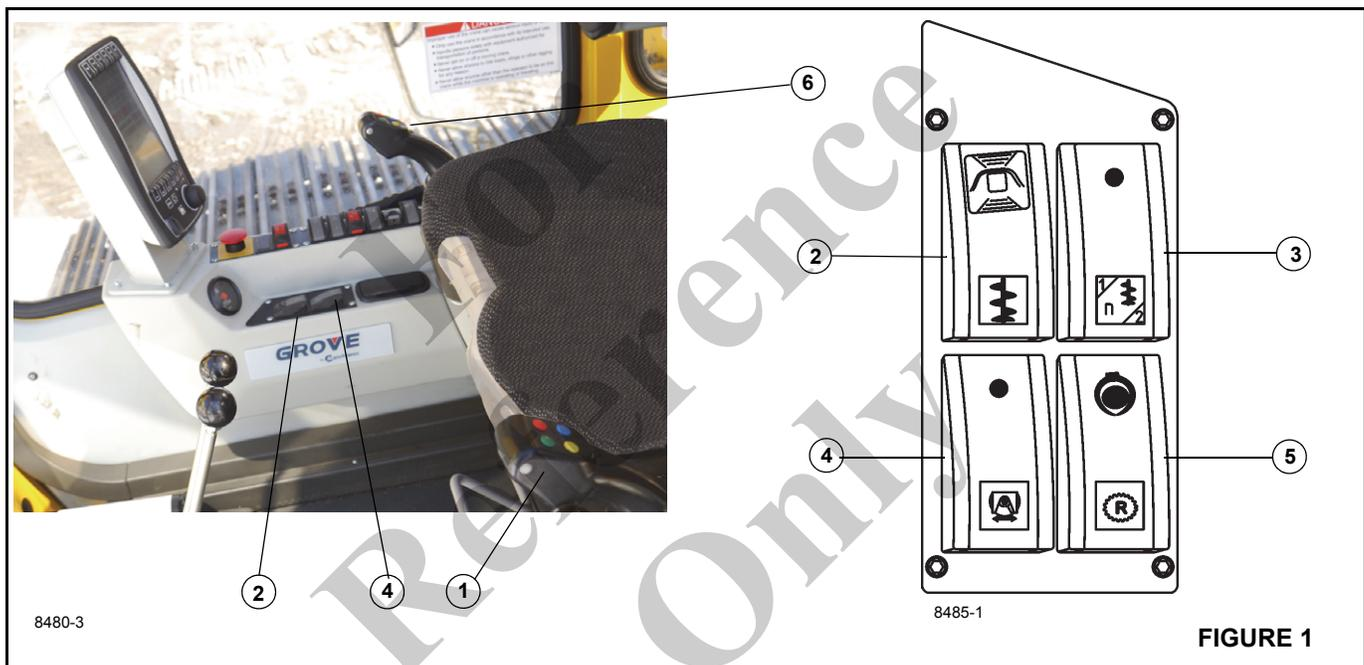
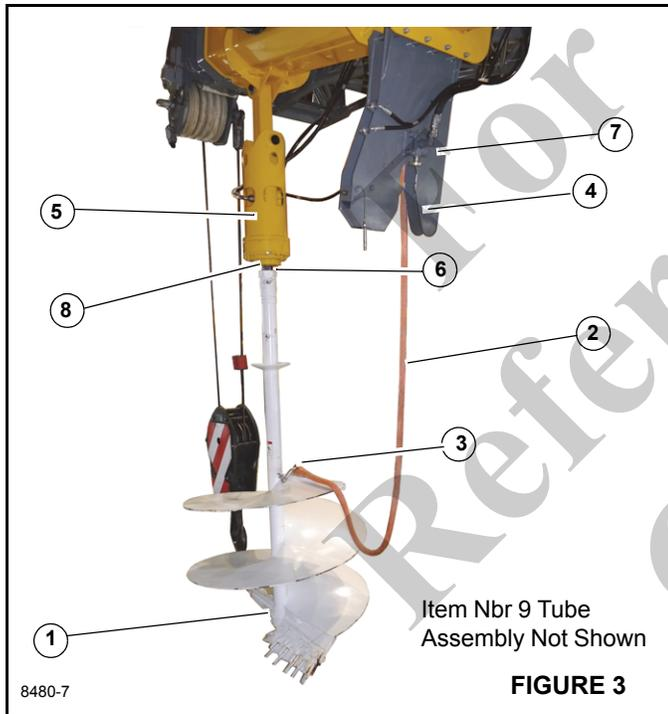

Figure 1 Item Numbers
Figure 3 Item Numbers
Pilot pressure of 35 bar (500 psi) is required to shift the motor from low to high speed, with a spring return to low speed. A pressure reducing valve circuit maintains pressure, an electric solenoid valve and a de-acceleration valve in the digger head provides instant speed selection when the auger drilling speed shift switch (3 Figure 1) is pressed.
Pushing the auger latch switch (4, Figure 1) opens the normally closed solenoid allowing the oil in the cylinder to
The following information will cover only the functionality of the Auger controls shown in Figure 1; for information on all other Operator's controls see the crane Operator Manual.
The auger power switch (2, Figure 1) controls electrical power on/off to the auger system components. This is a two position safety release switch. Slide the safety release tab on
The left joystick controls rotation direction and speed of the hydraulic motor controlled auger. (1, Figure 1) Pushing the left joystick forward turns the auger in the drilling direction. Pulling the left joystick rearward turns the auger against the drilling direction.
Press the auger latch switch (4, Figure 1) to open the stow bracket latch, press the switch again to close the latch.
The auger stow control joystick (1, Figure 1) rotates the auger for digging (forward or reverse) and is also used to stow or unstow the auger (See "Auger Control" on page 2.) Push the left joystick control lever forward for auger rotation when *unstowing* the auger, pull the lever backward for auger rotation and when *stowing* the auger.
6. Push the auger latch switch (4) to open auger latch (See “Auger Latch Switch” on page 3.) The transport tab is unlocked. (4, Figure 1). Increasing the engine RPMs might be necessary to open the latch.
8. Push the left joystick forward until the wind-up rope unwinds and the auger (5, Figure 3) points perpendicularly downward.
1. With the auger power switch activated, (2, Figure 1), position the flighting (1, Figure 3) over the desired digging area and lower boom to the ground, then slowly push the left joystick control lever (1, Figure 1) forward and start the auger into the surface. If the auger begins a whipping (side to side) motion; stop digging momentarily, then restart digging.
NOTE: When the flighting (1, Figure 3) is filled with dirt, pull the auger from the hole and deposit the dirt in a desirable location. Dirt can be removed from the flighting by rotating the auger in the forward direction then the reverse direction. **Do not remove dirt by changing auger directions violently back and forth.**
Clean the flighting (1, Figure 3) before stowing to maintain a longer flighting life and reduce excessive strain on the stow ear due to additional weight and to avoid dirt falling off the flighting during the stow procedure.